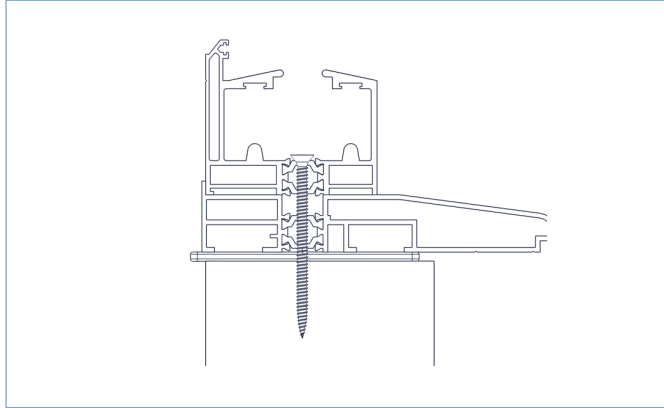

FIG 5A
► **5.1.** Fix the bottom track and cill as shown in FIG 5A. Position the fixings approximately 100mm in from each end of the track and one fixing every door width along the length. If there is no cill, fix the bottom track to the brick/ block below, making sure it is straight and remains level